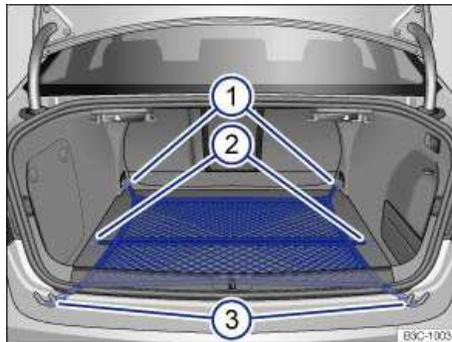

Fig. 106 In the luggage compartment: Luggage net hung horizontally.
- First, secure the luggage net hooks ⇒ fig. 106 \(1\) to the tie-downs on the rear seat backrest (1) ⇒ ⚠. The luggage net zipper must face upwards.
- Then secure the luggage net hooks (3) to the tie-downs on the loading edge (3) of the luggage compartment.